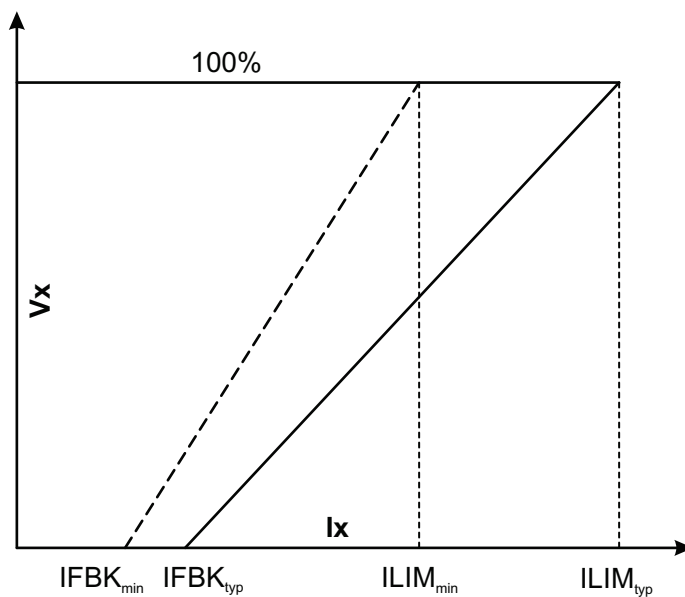

Figure 4: LDO Foldback Characteristics
2. Current limit with foldback short-circuit protection (see Figure 4)